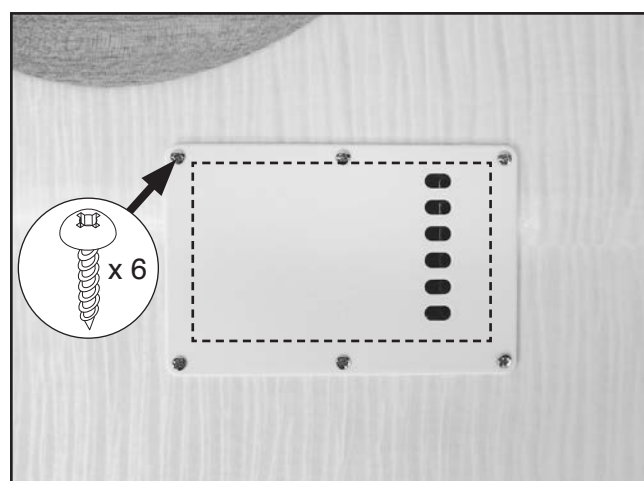

Figure 16. Correct position of back plate.
1. Turn guitar face down, position back plate over cavity in back of guitar body, as shown in **Figure 16**.
5. Secure back plate to guitar body with (6) M3 x 12 Phillips head screws, and remove masking tape (see **Figure 16**).